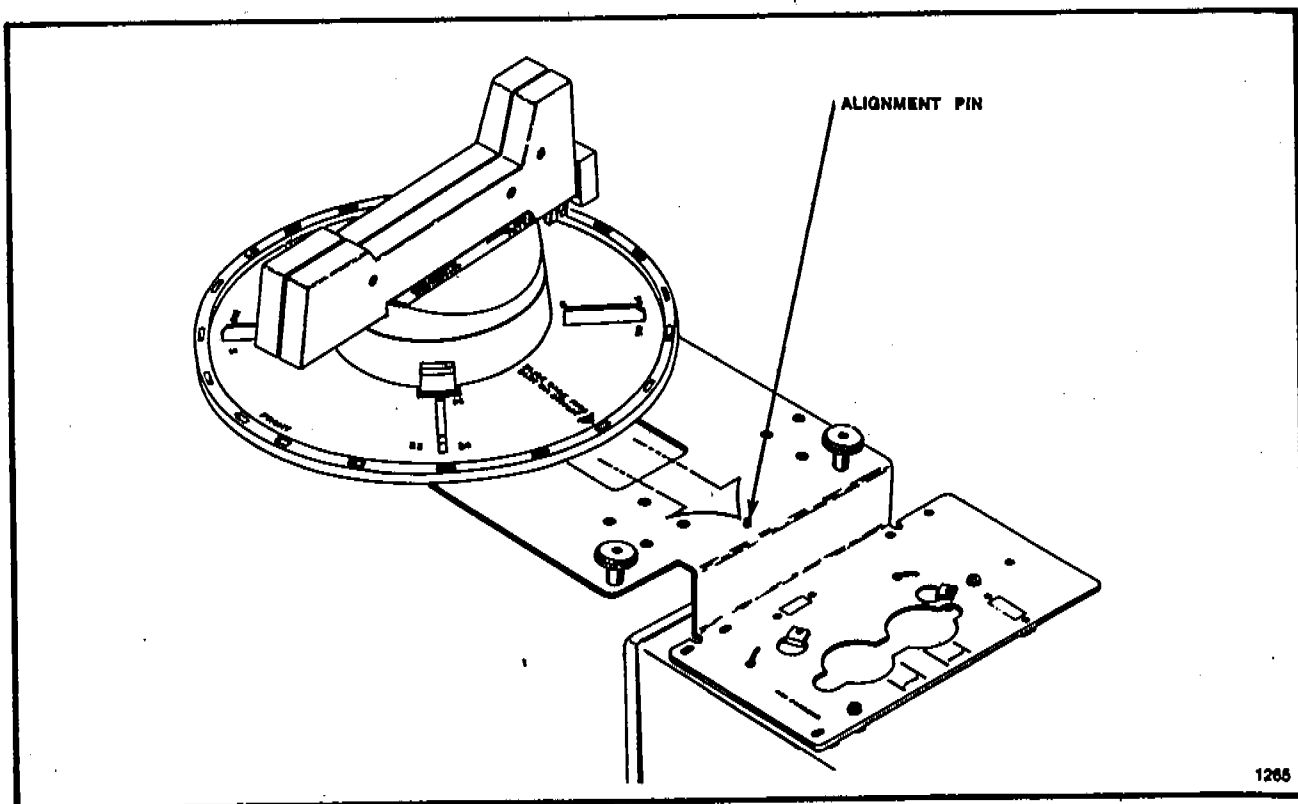

Figure 2-22. Tray Installation
1. Using Figure 2-22 as a guide, position the tray to the left of the mounting bracket. Align the base of the tray with the opening in the mounting plate. An arrow on the tray is provided to show the direction the tray is installed.